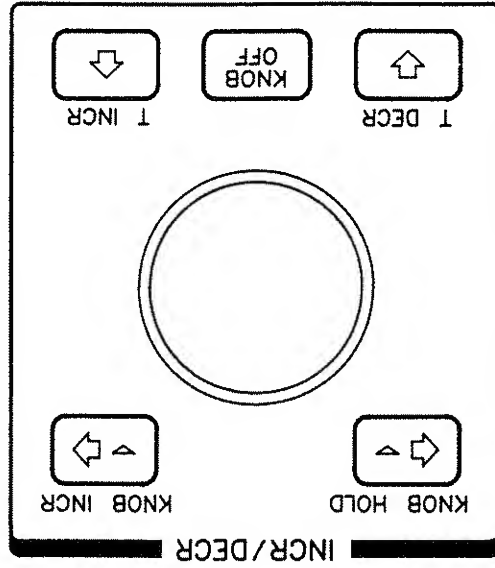

Figure 3-5. Knob for Start, Stop, Center, and Span.
- Turn the knob (shaded in figure 3-5) clockwise to increase frequency, or turn the knob counterclockwise to decrease the displayed frequency: